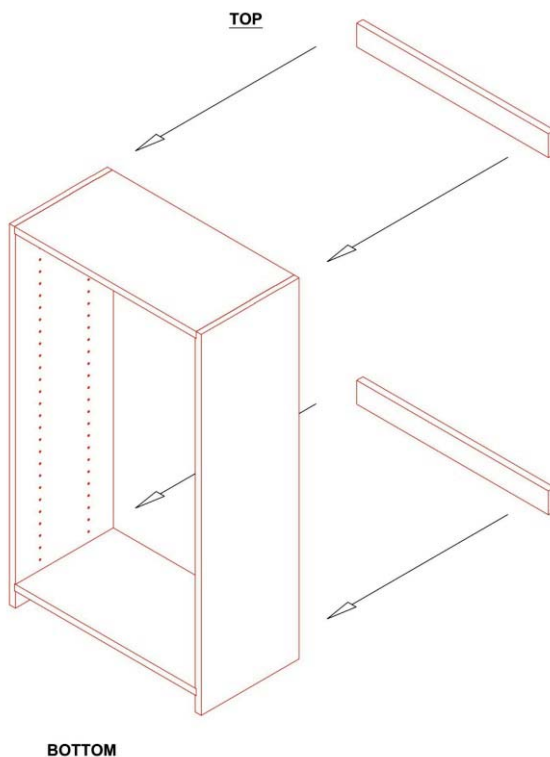

Figure 3
5. Locate the two nailers. Attach one nailer to the upper back of the solid rect. bin flush to the top using the screws provided. Attach the second nailer to the lower back of the side panels flush to the lower back of the solid rect. bin flush to the bottom of the right and left panels. **(Figure 3)**